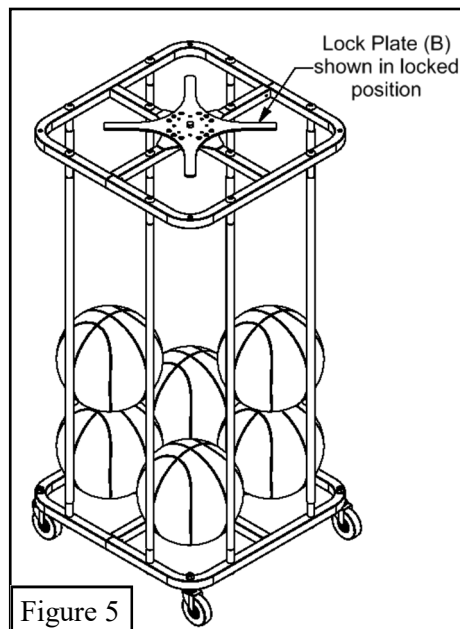

Figure 5
4. After assembling, tilt cart upright onto the *Casters* (G). To secure the ball cart, rotate the *Locking Plate* (B) and lock with a padlock (customer supplied). See Figure 5.